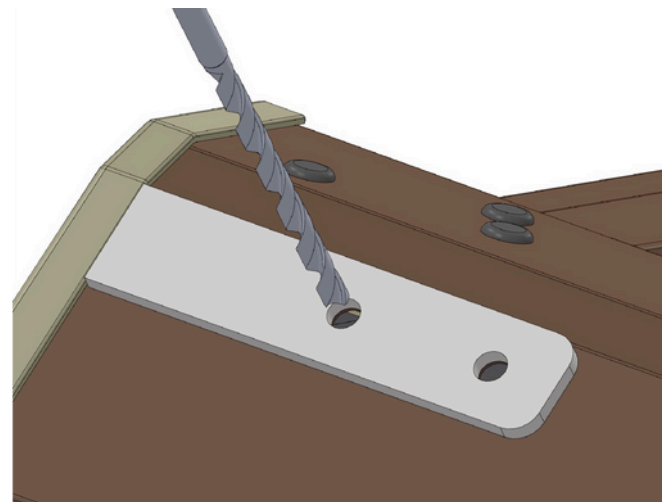

Fig. 3
- 2) Customize a template [h] to the edge of the upper (transverse) sheet of the window cladding (Fig.2). Then drill 2 holes with a  $\varnothing 6$  drill bit. Turn the template over and repeat in the opposite corner (Fig.3)